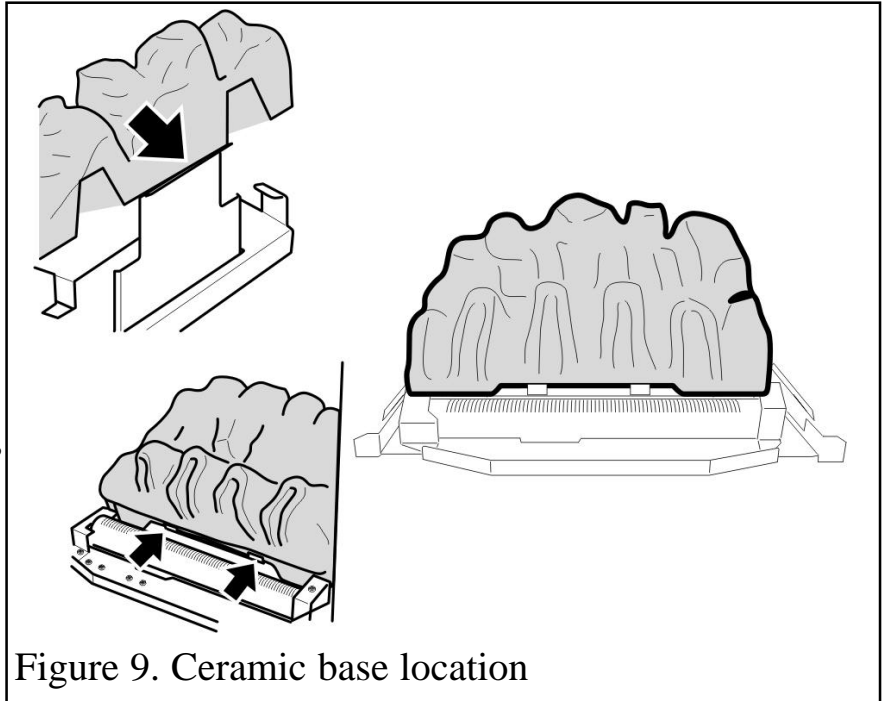

Figure 9. Ceramic base location
1. Place the ceramic base coal in the burner compartment. The bottom rear face of the coal should rest on the angled ledge at the back of the burner tray. The bottom front recess of the coal base should locate against the tags at the front of the ceramic support (See figure 9).